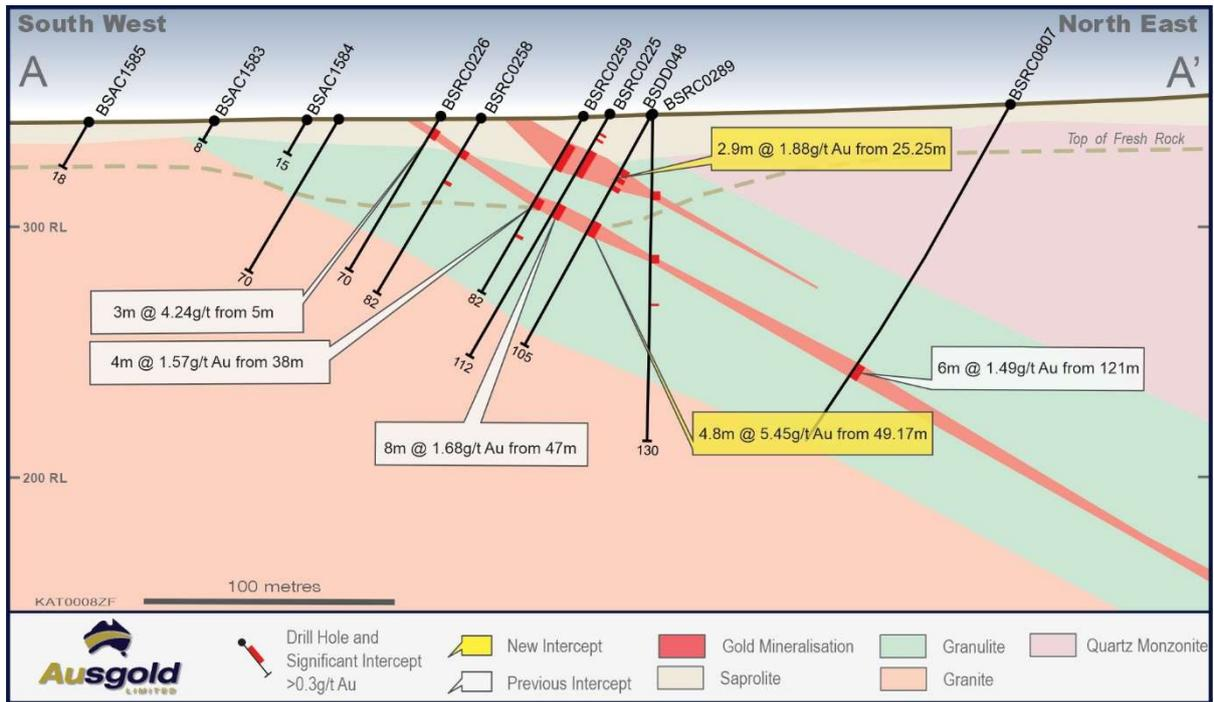

Figure 3 – Jackson Cross-section A-A'
- *4.8m @ 5.45g/t Au from 49.17m including 3.5m @ 7.48g/t Au from 49.4m in BSDD048 (Figure 3)*